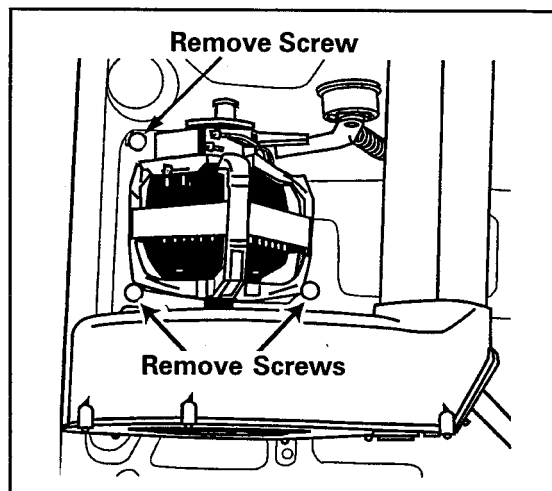

Figure 7-7
9. Remove three screws securing motor to base frame. An extension is required to reach the screws. Screws are located directly behind the blower housing and the motor. (*See Figure 7-7*)